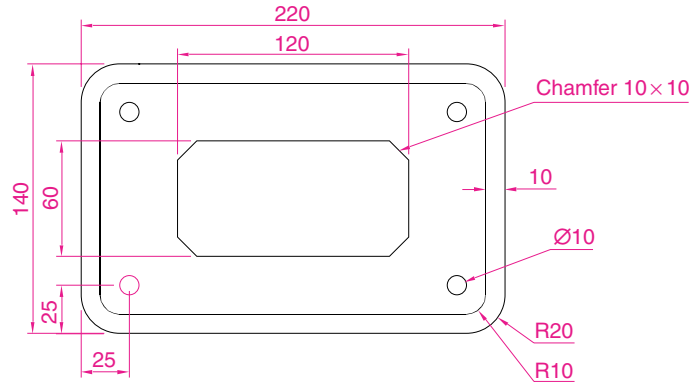

Fig. 6.42 Exercise 2
2. Construct the drawing in Fig. 6.42 but in place of the given dimensions add dimensions showing tolerances of 0.25 above and below.